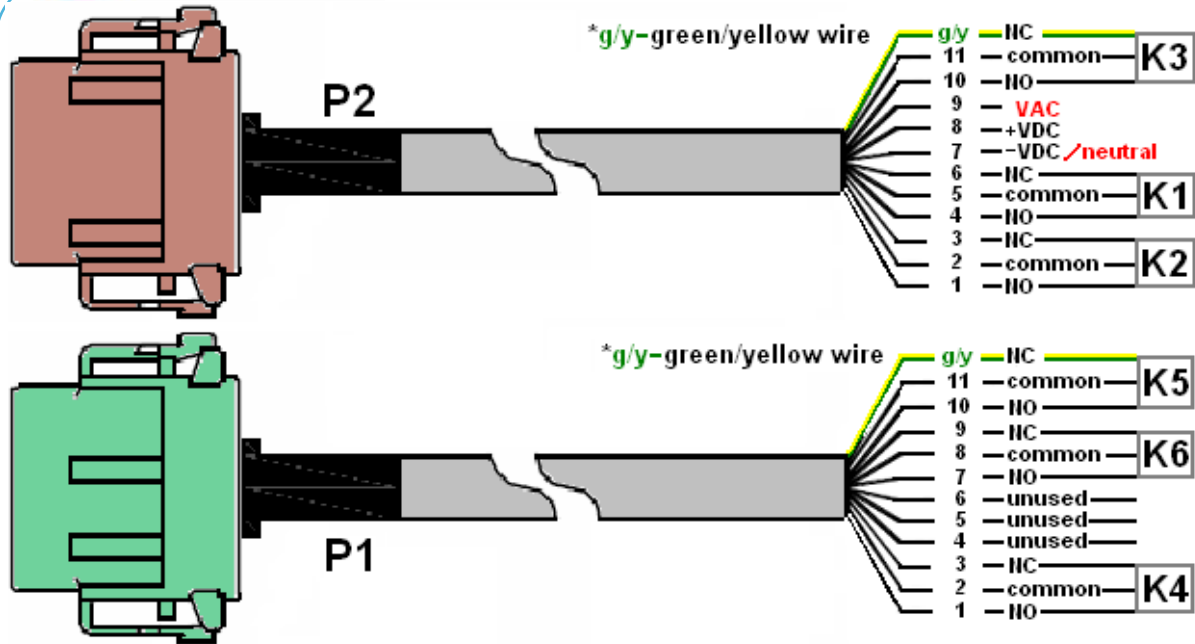
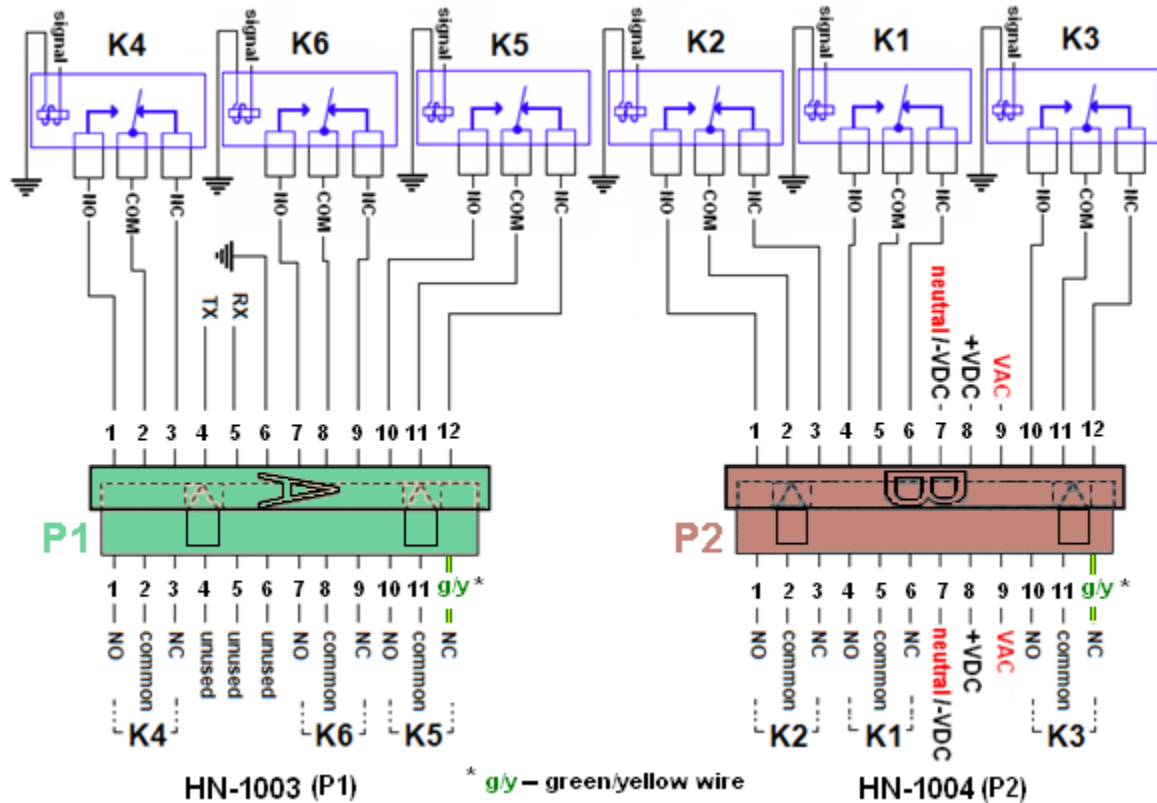

Figure 4. Cable Wiring Assignments
Figure 6. Field Wiring Layout
- Make sure the wiring harness cables (Figure 4) are at hand.
Figure 4 below is a drawing of the harness cables and wiring assignments.
✓ **Note:** P1 and P2 cable wires 1 through 11 are individually numbered on the insulator of each wire. Wire 12 insulation is green with a yellow stripe, but it is not numbered. This is represented in Figure 4 and Figure 6.